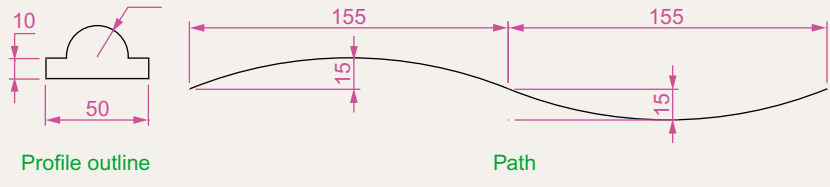
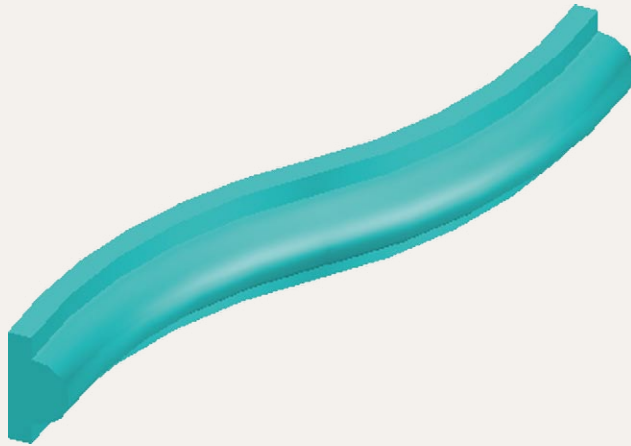

Fig. 12.52 Exercise 9 – profile and path dimensions
Fig. 12.53 Exercise 9
- Working to the polylines shown in Fig. 12.52 construct the **Sweep** shown in Fig. 12.53.